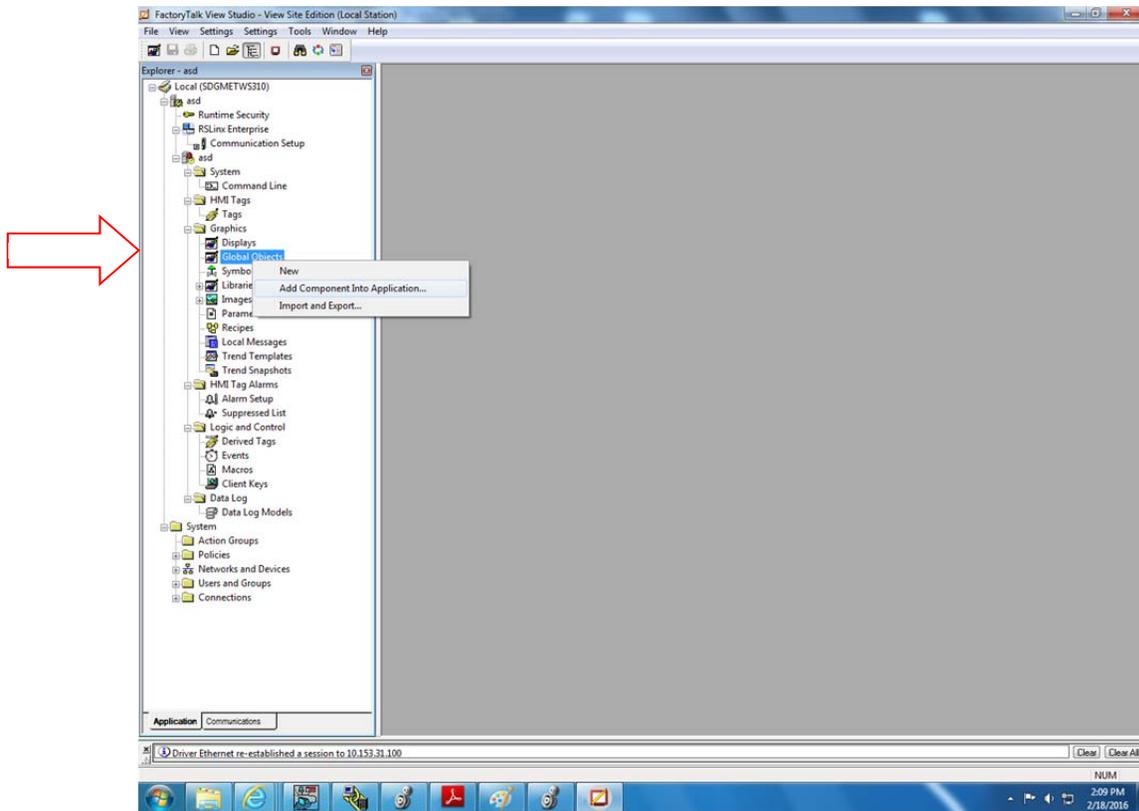

Figure 4
- Right click on Global Objects and click on ‘Add Component into Application’, look for the faceplate files (Hardy_HI6500_SE.ggfx and Default Selection.ggfx) to add them under global objects. See Figure 4.